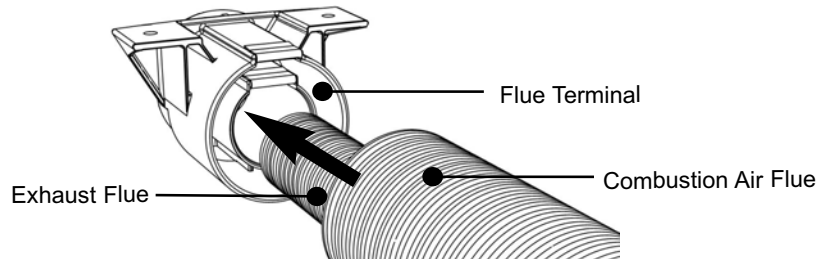

Fig. 23A Attaching Flue to Flue Terminal
- iv. Push the exhaust flue into the rear of the flue terminal (fitted to the vehicle floor) until it will go no further, approximately 50mm. The flue **must be** pushed fully home. Please see Figs. 23A, B and C.